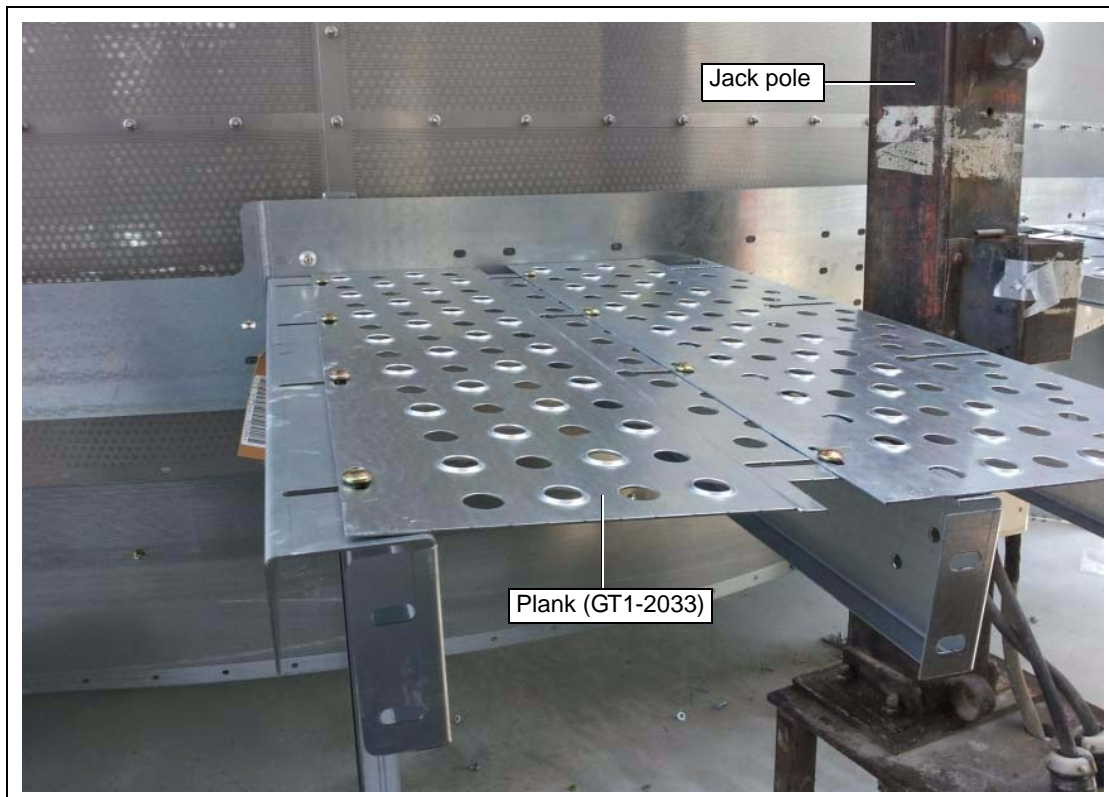

Figure 6O
3. Install all the planks (GT1-2033) continuously around the dryer except at the jack pole locations. (See Figure 6O.)